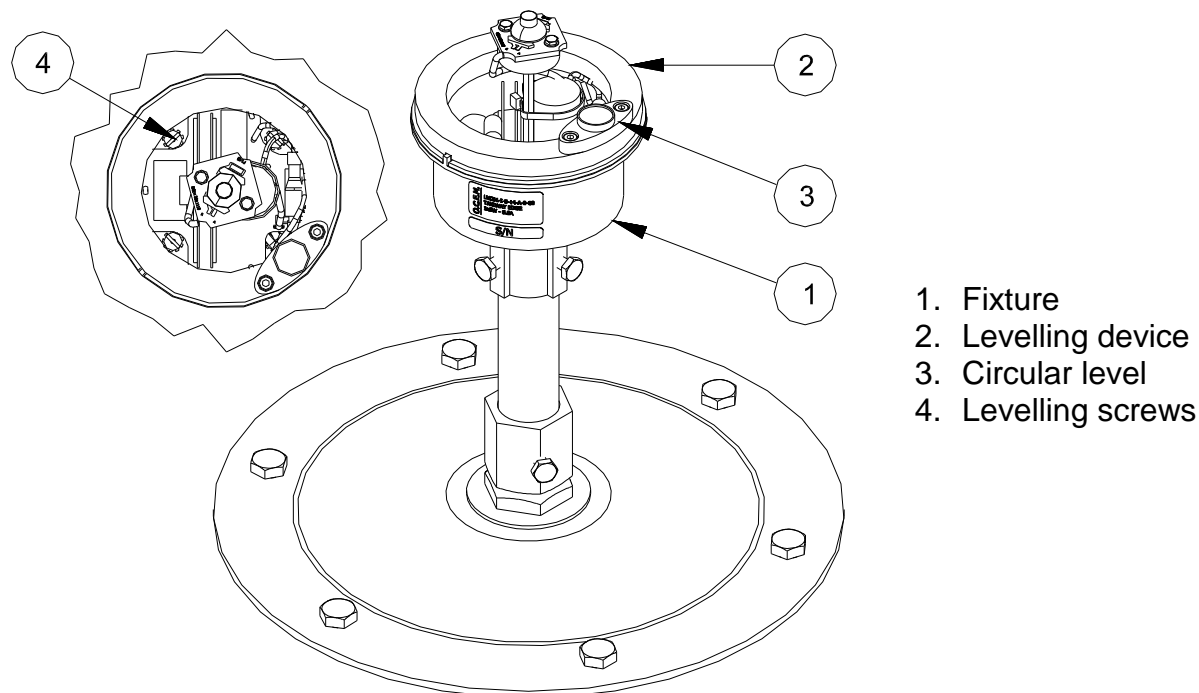

Figure 5 – Levelling device
10. Place on the light body the levelling device (P/N 332.3490 available on request) (Figure 5) in fixed position and level the light body on the slipfitter by operating the four levelling screws until the bubble is centered.